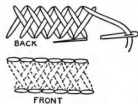

FIGURE 58
*Shadow Stitch* (Figure 58). — Work from left to right on the wrong side of the material after fastening the thread with a plain knot. Insert the needle to the left on the lower of two imaginary parallel lines, catching several threads. Draw the needle